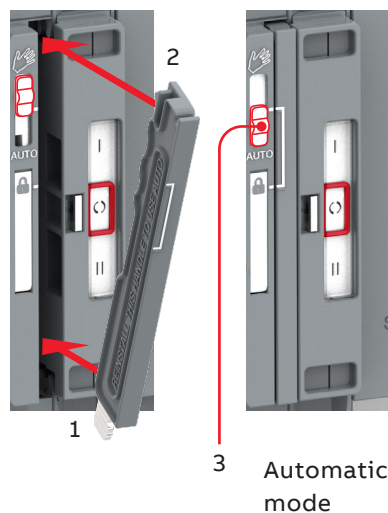

Fig. 3.6 The operating handle must set back to standby slot before moving to the automatic mode
- **Lock-position = Locking mode**, padlocking the automatic transfer switch in a specific position to prevent automatic and manual operation. Remark! The handle has to be in its stored position (not in use), after which the slide switch will move to the Locking mode automatically and the switch is allowed to be padlocked. To set the operating handle back to its place, refer to the left most picture in Fig. 3.6.